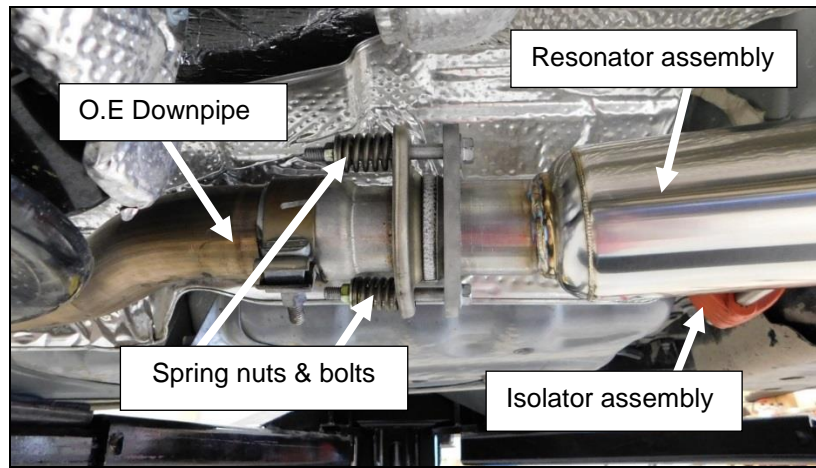
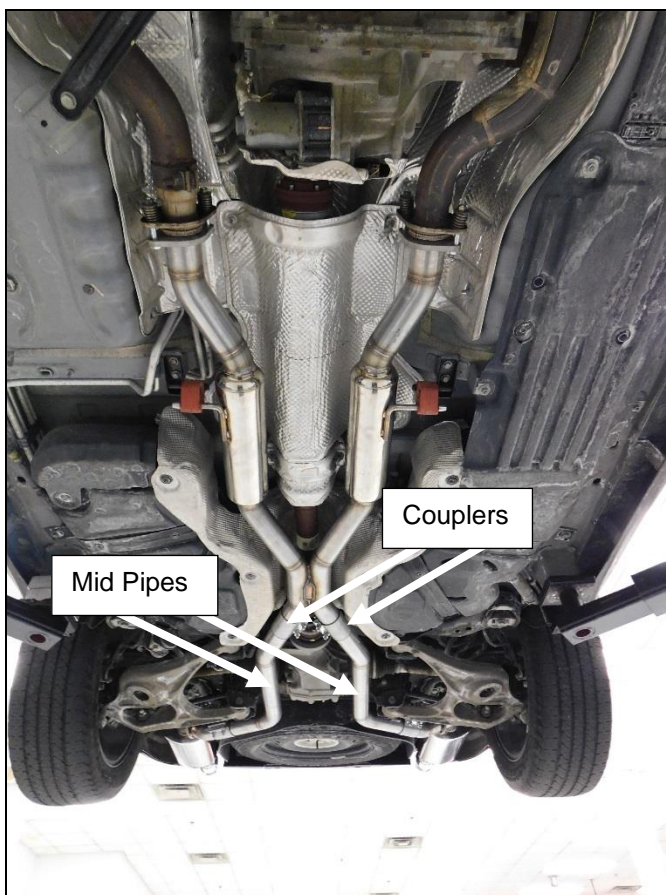

Figure 2
Figure 3
1. Install the Blackheart left and right resonator hanger rod into the resonator isolator. Install the provided M10 x 90mm flange bolt into the resonator flanges and through the O.E flanges on the down pipes. Install the spring nuts and tighten the nut until the spring is fully compressed (**Figure 3**). Do not over tighten the nut, as damage to the seal ring will result (**Figure 2**).
2. Install the supplied 2.5" coupler on to the outlet of the X-Pipe with the bolts to the inside and the nuts facing down (**Figure 3**).
3. Install the left and right mid pipes to the X-pipe outlet pipes and slide the coupler on to the mid pipe. Align the couplers for a 50/50 split between the mid pipes and the X-pipe. Tighten to allow for adjustment (**Figure 3**).